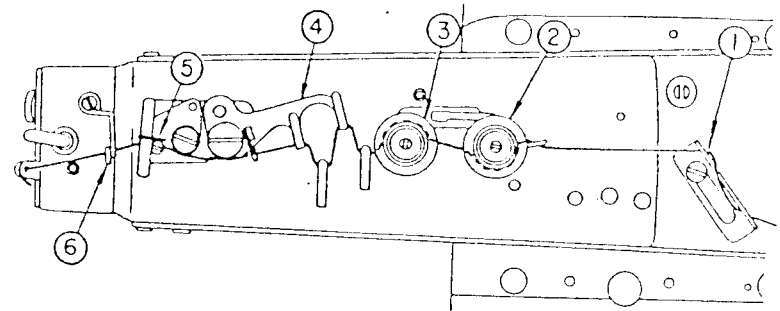

Fig.5
## 8. THREADING THE MACHINE (Fig. 5,6)
To thread the machine, put it in stop motion position, and thread in accordance with the diagram as shown in Fig. 5, 6 Start from thread spool stand needle thread guide pin No. 1 ① tension disc No. 1 ② tension disc No. 2 ③ thread pull-off lever ④ nipper ⑤ thread guide No. 2 ⑥ upper eyelet of face plate thread guide No. 3 ⑦ needle bar bearing block and thread guide ⑧ thread tension disc No. 3 thread guide ⑨ tension disc No. 3 ⑩ to the needle eye from front toward rear and draw the thread out about 60-70 m/m (about 2 3/64" ~ 2 3/4")
The thread pull-off lever (Fig.5 ④) controls the amount of thread which is pulled through the tensions at the end of a stitching cycle to provide sufficient